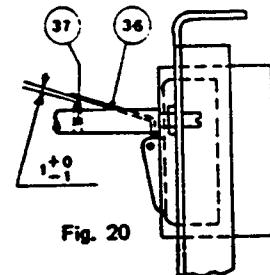

Fig. 20
- A. Adjustment (Fig. 20). Place breaker in closed position with overcurrent and short circuit release bar latched. Deform strip (36) to obtain clearance between strip (36) and spring pin (37).